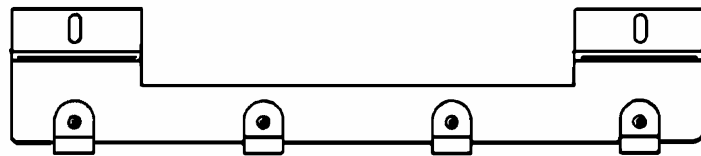

Figure 1 METERING BRACKET ASSEMBLY
3. Install METERING BRACKET ASSEMBLY (Fig. 1,2, and 2A).
2. Remove METERING BRACKET ASSEMBLY (Fig. 1,2, and 2A).